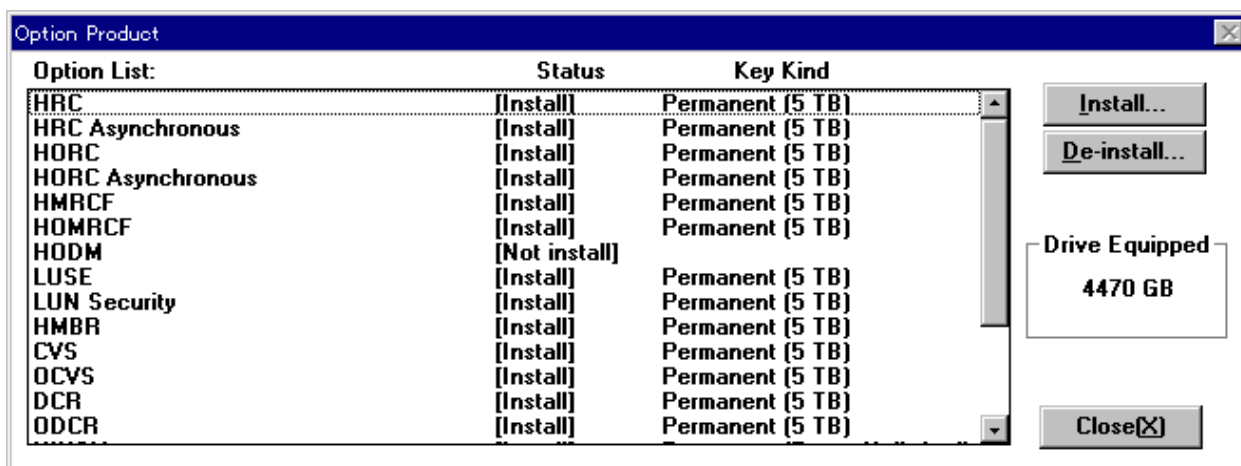

Figure 3.9 Enabling the HORC Copy Options on Each Subsystem
- a) On the Connection Control panel, select the desired 9900 subsystem, and then select **Install...** to open the DKCMAIN Option Product panel (see Figure 3.9).